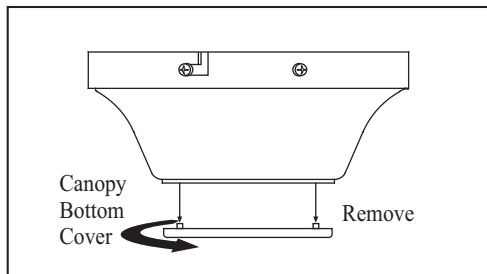

Figure 8
3. Remove the decorative canopy bottom cover from the canopy by turning the canopy bottom cover counterclockwise (Figure 8).